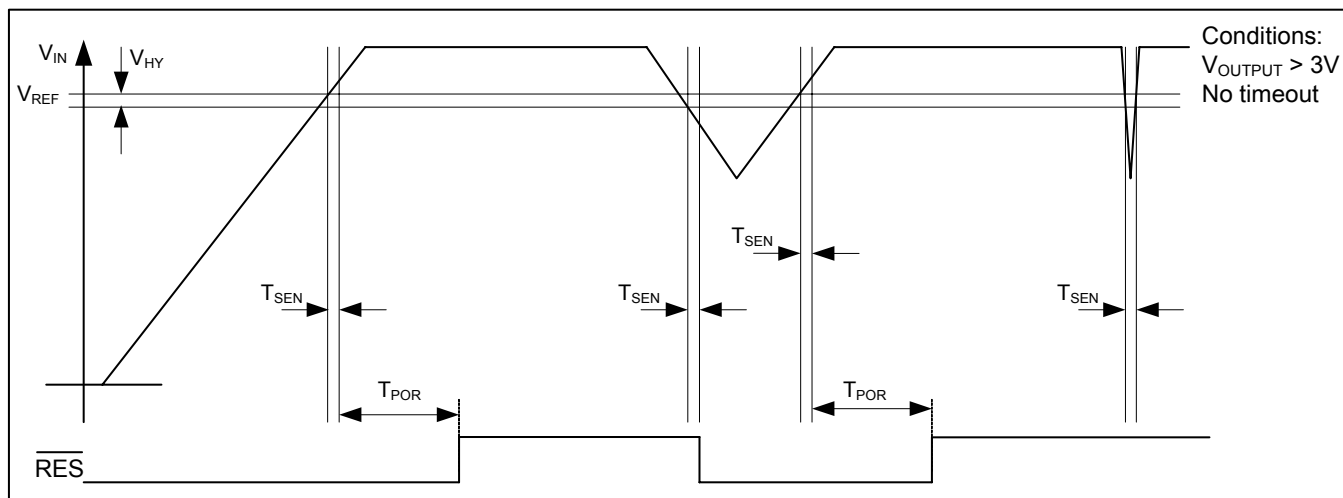

Fig. 5
- Note 6:** the comparator reference is the power-down reset threshold. The power-on reset threshold equals the comparator reference voltage plus the comparator hysteresis (see Fig. 5).
At power-up the reset output ($\overline{RES}$) is held low (see Fig. 5). When V_{IN} becomes greater than V_{REF}, the $\overline{RES}$ output is held low for an additional power-on-reset (POR) delay T_{POR} (defined with the external resistor connected at R_{OSC} pin). The T_{POR} delay prevents repeated toggling of $\overline{RES}$ even if V_{DD} voltage drops out and recovers. The T_{POR} delay allows the microprocessor's crystal oscillator time to start and stabilize and ensures correct recognition of the reset signal to the microprocessor.